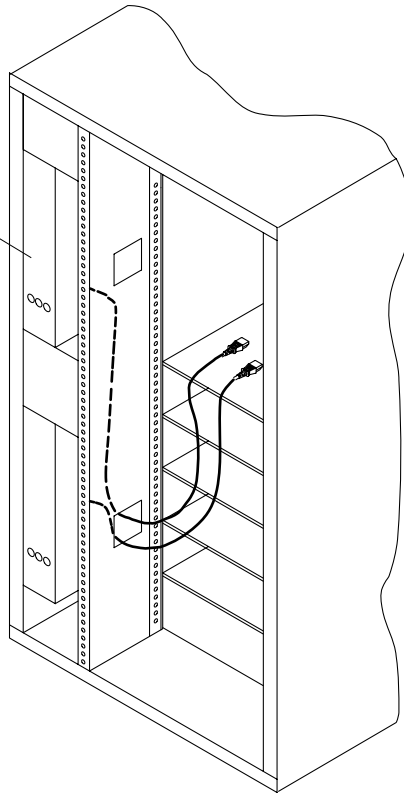

FIGURE 1-6 Routing the Power Cords
3. Route the other end of the power cords through the cable access hole in the support structure (FIGURE 1-6).